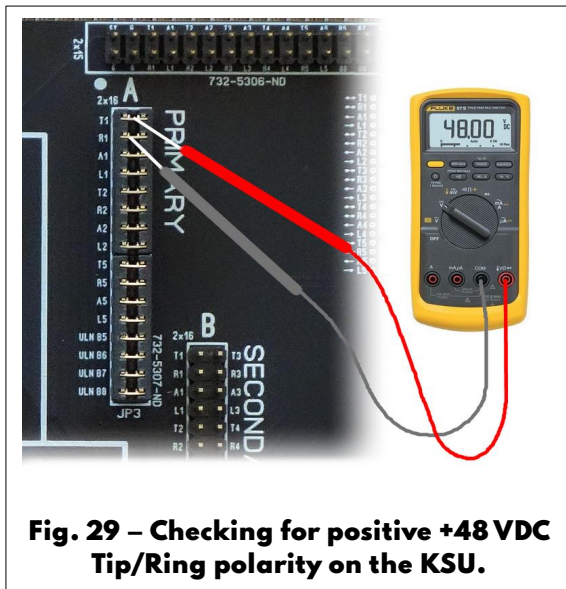

Fig. 29 – Checking for positive +48 VDC Tip/Ring polarity on the KSU.
5. **Proper polarity** should read positive voltage (approx. +48 Volts DC) on an idle phone line. (Fig. 29)